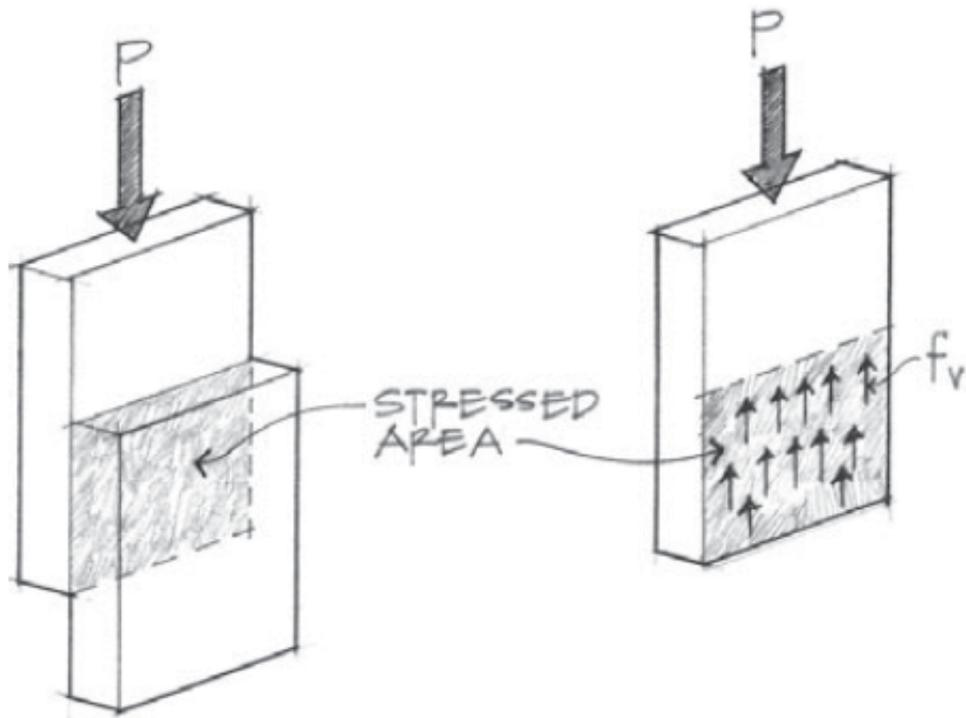

Figure 5.10 Shear stress between two glued blocks.
*Shear stress*, the second classification of stress, is caused by a tangential force in which the stressed area is a plane parallel to the direction of the applied load. (Figures 5.10 through 5.12). Average shear stress may be represented mathematically as